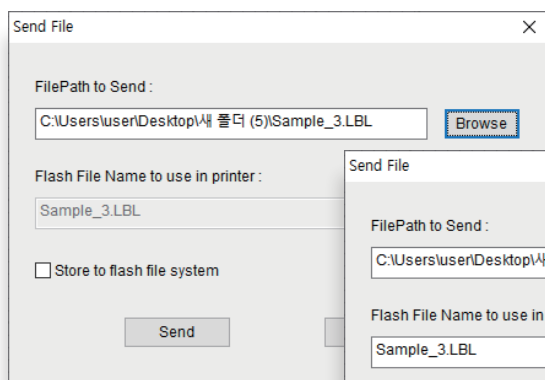

Figure 1
- 01 Open the LBL file. (Figure 1)